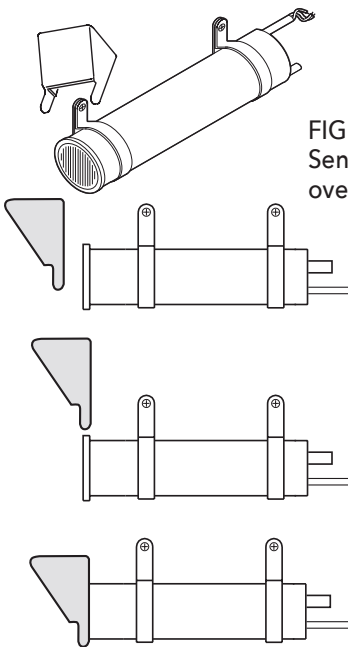

FIGURE 2. Moisture Sensor Cup positioned over grid-end of Sensor.
1. Position the moisture sensor cup over the far end of the moisture sensor, opposite the end with the electrical wires. Refer to Figure 2.